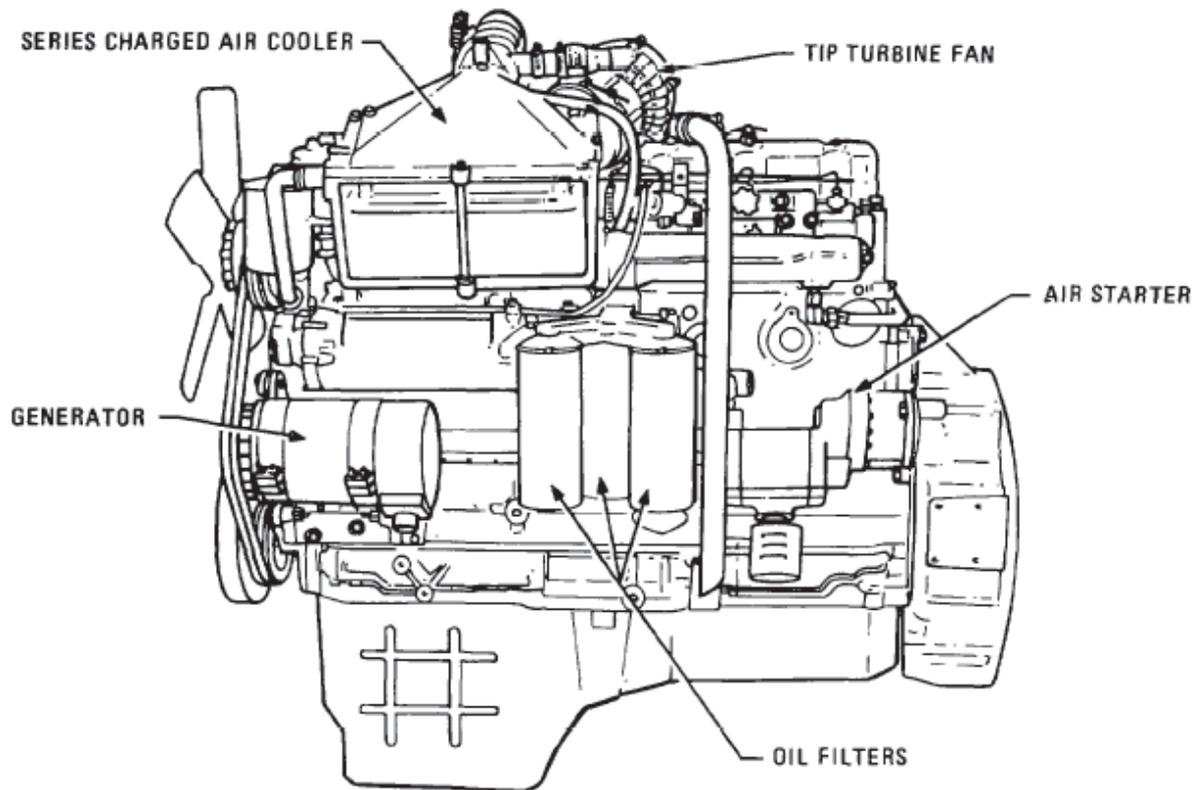

Figure 2 Engine EM6-285 Mack, Left-hand Side View
9. The generator (Figure 2), fan and water pump are driven by two V-type belts from a driving pulley mounted on the front end of the crankshaft.
10. The series charged air cooling system (Figure 2) is located between the turbocharger and the inlet manifold. Its purpose is to cool the pressurised air as it travels from the turbocharger to the inlet manifold. This is done by means of a heat exchanger and a tip turbine fan. The fan is driven by pressurised air taken from a bleed off point on the turbocharger to inlet manifold crossover tube.
11. The air starter is located between the oil filters and the flywheel housing (Figure 2). It is driven by compressed air stored in a tank located on the right-hand side of the vehicle.